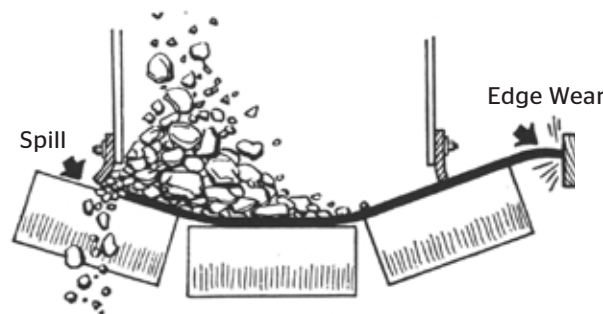

Fig. 6
**of gravity of the load tends to find the center of the troughing idlers, thus leading the belt off on its lightly loaded edge (Fig. 6).**